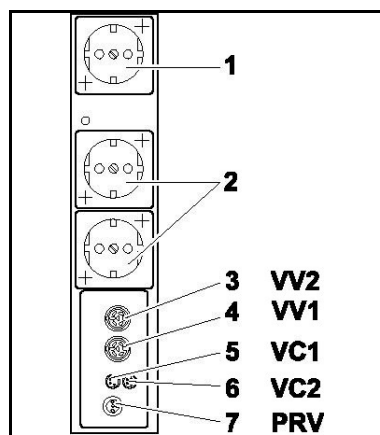

Fig. 10: Connections of the electrical supply unit
1. Connect signal socket of the vacuum controller with the electrical supply unit socket marked VC 1 (fig. 10/5) using the connection cable.
2. When using two vacuum controllers, connect the second vacuum controller's signal socket to the electrical supply unit's VC2 connection (6).
3. Insert the vacuum controller power cord plug into the designated electrical supply unit socket (2).
4. When using two vacuum controllers, insert the vacuum valves' plugs into the electrical supply unit's VV1 (4) and VV2 (3) connections.
5. Insert the pump vent valve plug into the electrical supply unit socket marked PRV (7).
6. Insert the vacuum pump power cord plug into the designated electrical supply unit socket (1).
2. Insert the coolant valve's plug into the vacuum controller's VV1 socket (see fig. 10/4).